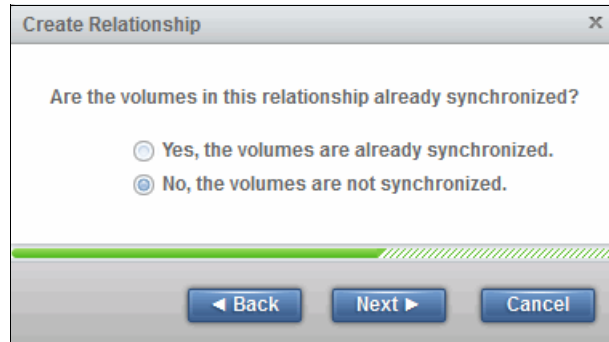

Figure 10-103 Activate initial data copy
- The next prompt asks you to select if the volumes in the relationship are already synchronized. In most situations, the data on the master volume and on the auxiliary volume are not identical, so click **No** and then click **Next** to enable an initial copy, as shown in Figure 10-103.